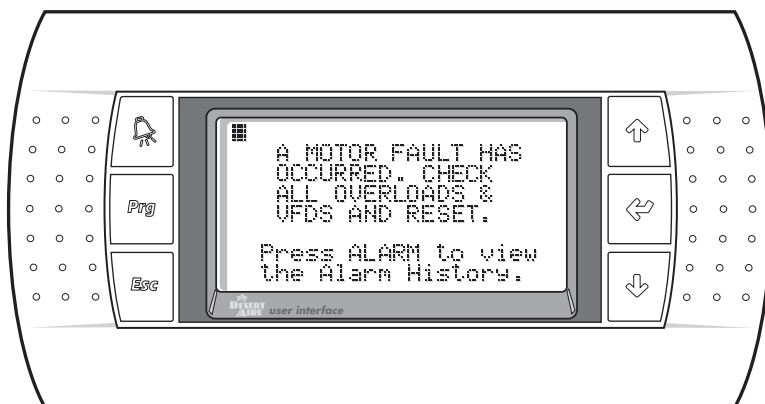

Figure 71
3.1.3. Motor Fault (Figure 71)